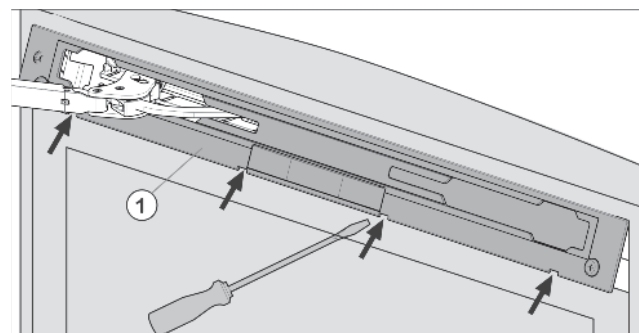

Fig. 52
- ▶ Release panel *Fig. 52 (1)* using slotted screwdriver and remove.